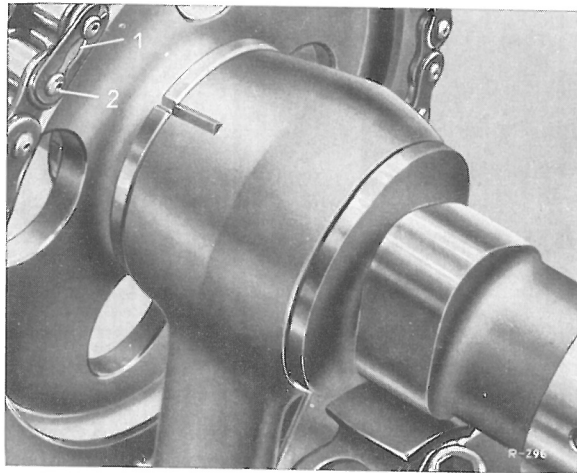

Fig. 07-47/4
9 Unscrew hexagon screw at retainer (13) and remove, together with the inner sliding rail (11), from the outer sliding rail (12) and from the cylinder head (Fig. 07-47/3).
11 Unscrew safety screw (8) for chain drive and pull out upper pivot pin of sliding rail (7) with the aid of Puller 187 589 07 33 00 (see Fig. 07-47/3).
14 Remove bushing (6) of injection timer and stop ring (9) from idling gear shaft (Fig. 07-47/1).